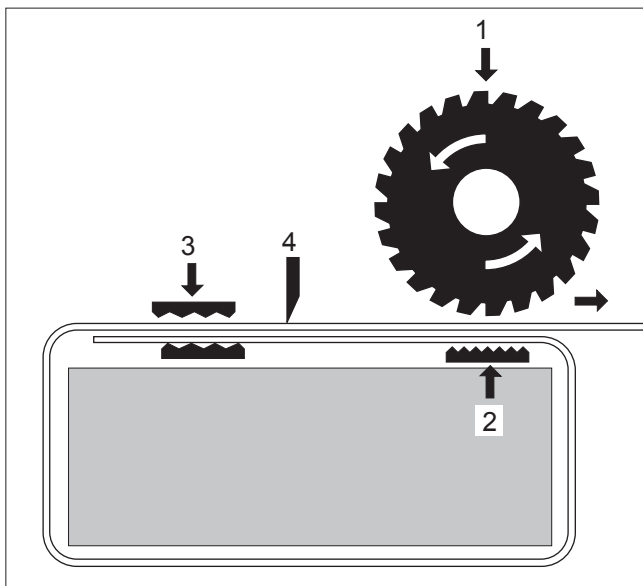

Fig. 2
- Strap clamped by pressure on toothed plate (Fig. 2/2).